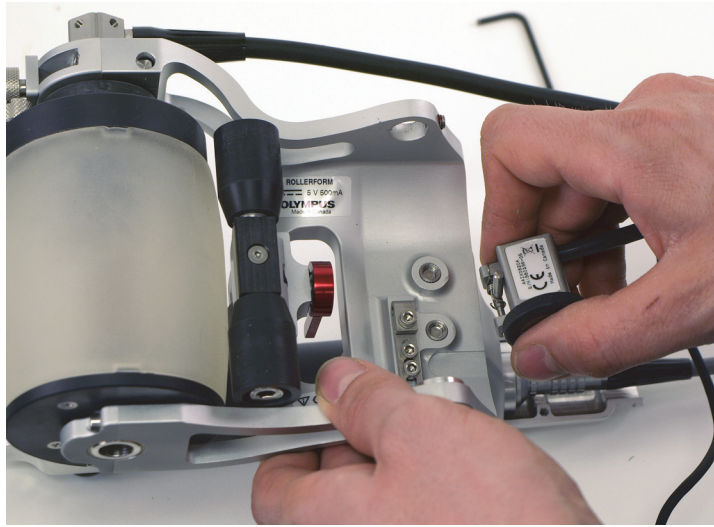

Figure 6-37 Removing the Mini-Wheel encoder
5. Remove the Mini-Wheel encoder (Figure 6-37 on page 116).